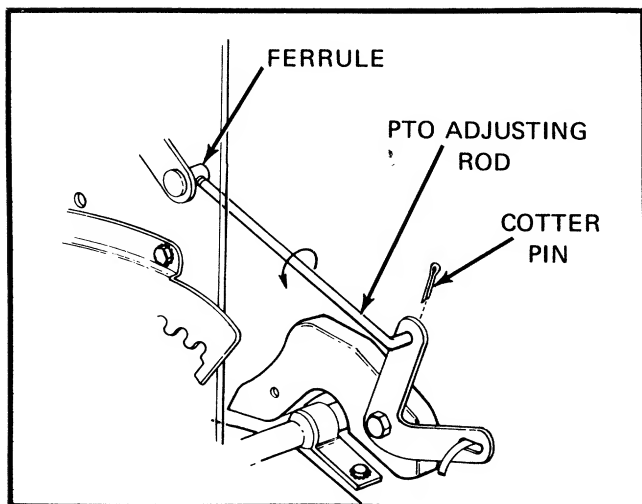

FIGURE 19. REAR PTO ADJUSTMENT
- Step 4. Replace the cotter-pin. See Figure 19.